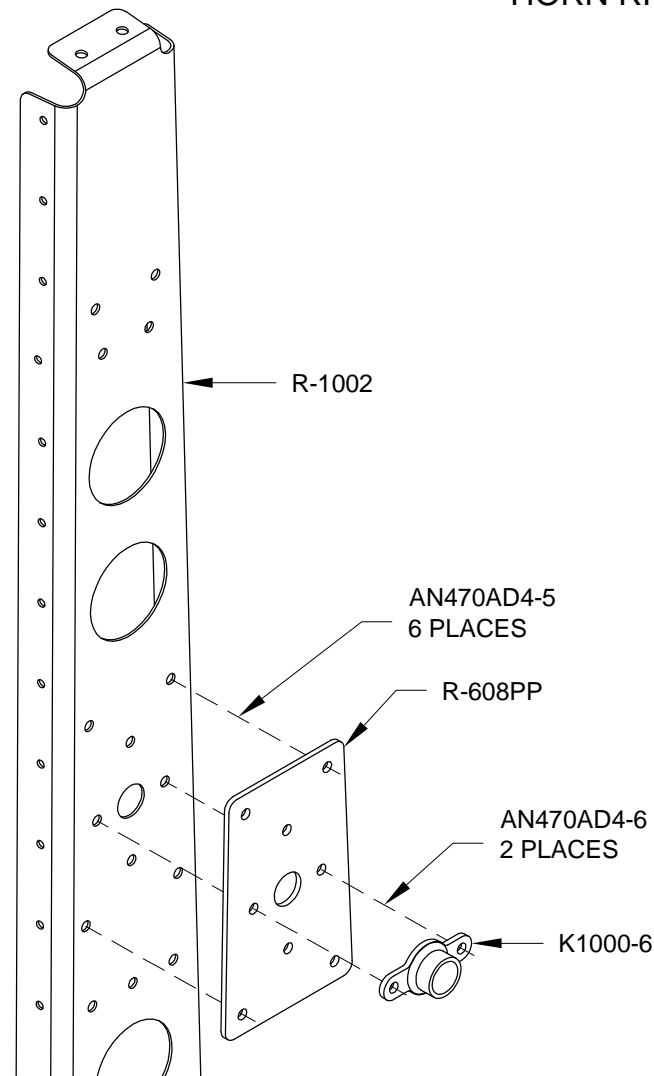

**FIGURE 1: BOTTOM RIB AND HORN RIVETS**
**Step 1:** Rivet together the R-1004A & B Bottom Rib halves using the rivets in Figure 1.